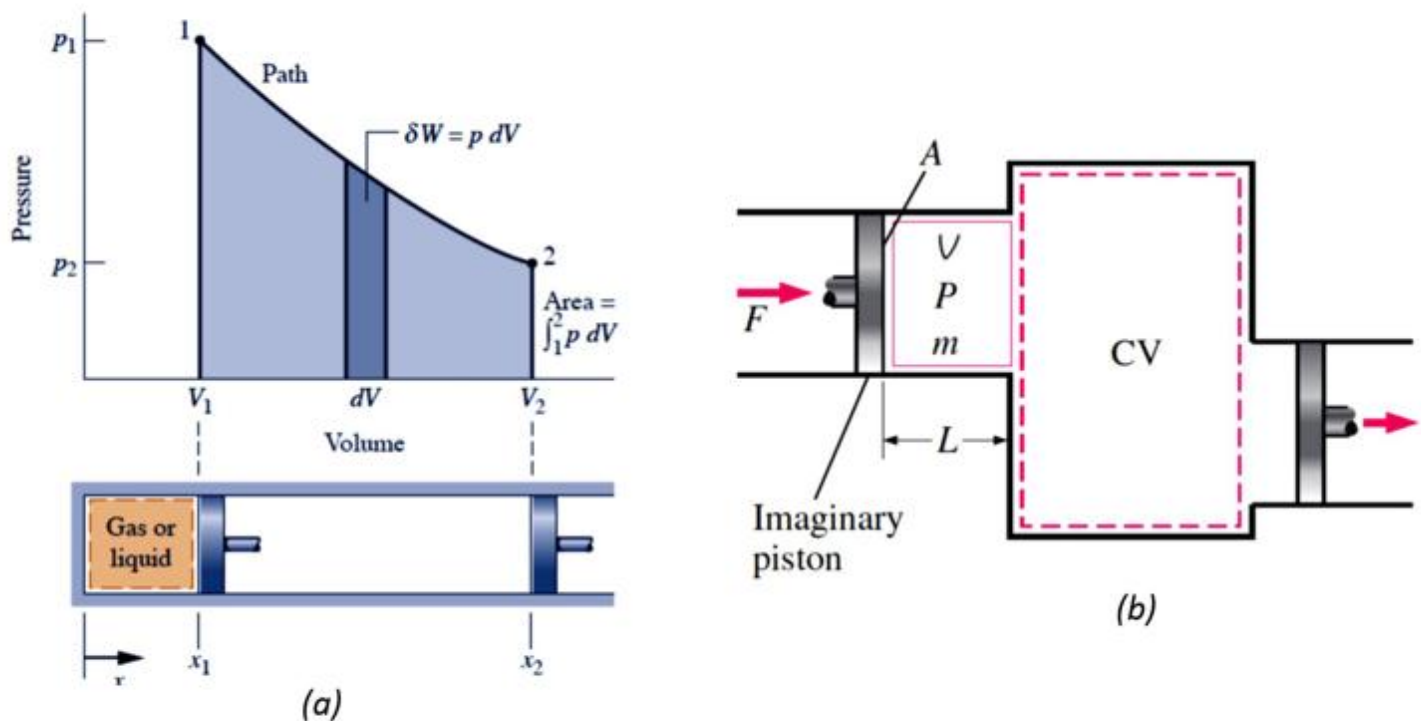

Fig. 1.11 (a) Displacement work and (b) Flow work
- Consider the gas enclosed in a frictionless piston cylinder arrangement as shown in Fig. 1.11. Let the initial gas pressure p_1 and volume V_1 . The piston is the only boundary which moves due to gas pressure. Let the piston moves out to a new final position 2, specified by pressure p_2 and volume V_2 . At any intermediate point in the travel of the piston, let the pressure be p , volume V and piston cross sectional area is A . When the piston moves through an infinitesimal distance ds in a quasi-equilibrium manner, the force applied on piston is,
- This work transfer during a process is equal to the area under the curve on a $p - V$ diagram as shown in Fig. 1.11 (a).
- Consider a fluid element of volume V , entering the control volume through a cross-sectional area A as shown in Fig. 1.11 (b).